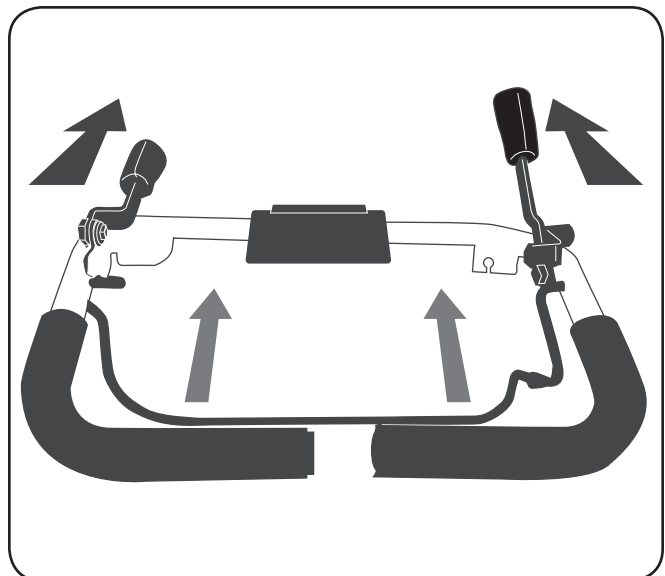

Figure 5-2
- a. With the neutral handle in the free wheel position, pull the clutch control bail up and hold it against the handlebars. See Figure 5-2. To stop the forward motion of the tines, release the bail.